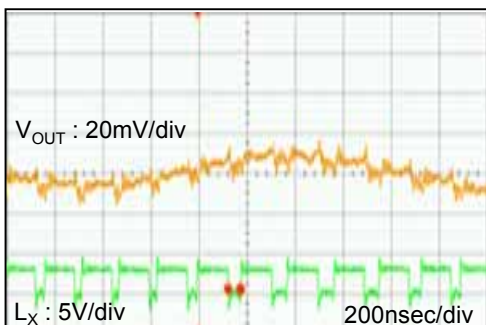
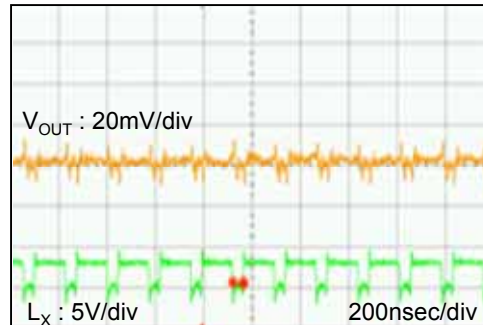

Fig. 15-1 Insufficient C_L ($C_L = 10 \mu F$)
Fig. 15-2 Sufficient C_L ($C_L = 20 \mu F$)
15. If the capacitance value is not sufficient by degrading C_L due to the low temp. condition and DC bias feature, the duty cycle might not be stable. Add capacitance value for C_L if necessary. (Refer to Fig. 15-1, Fig. 15-2)